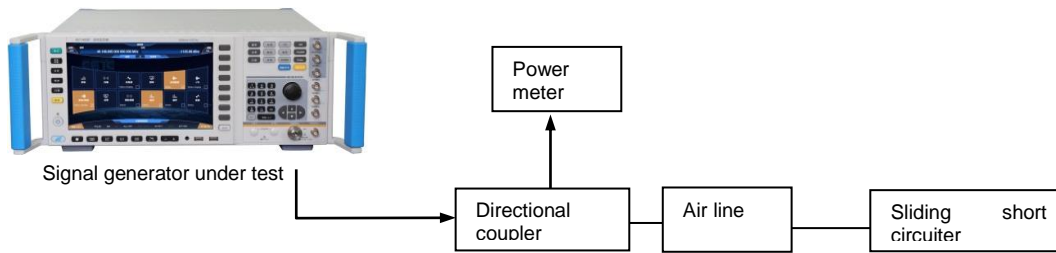

Figure 8.11 Source Standing Wave Test
**Step 2. Connect the device as shown in Figure 8.11.** The HP778D directional coupler is used and it is powered on and reset and warmed up for at least 30 minutes.